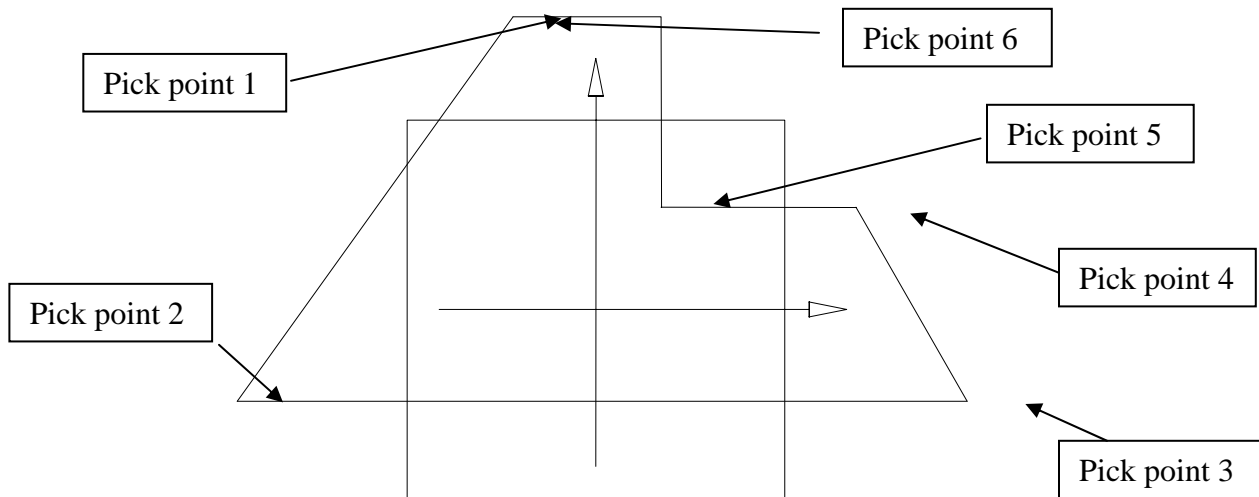

Figure 15
Create a sketch that resembles the one shown in Figure 15:
- Select the screen locations as shown in Figure 15.